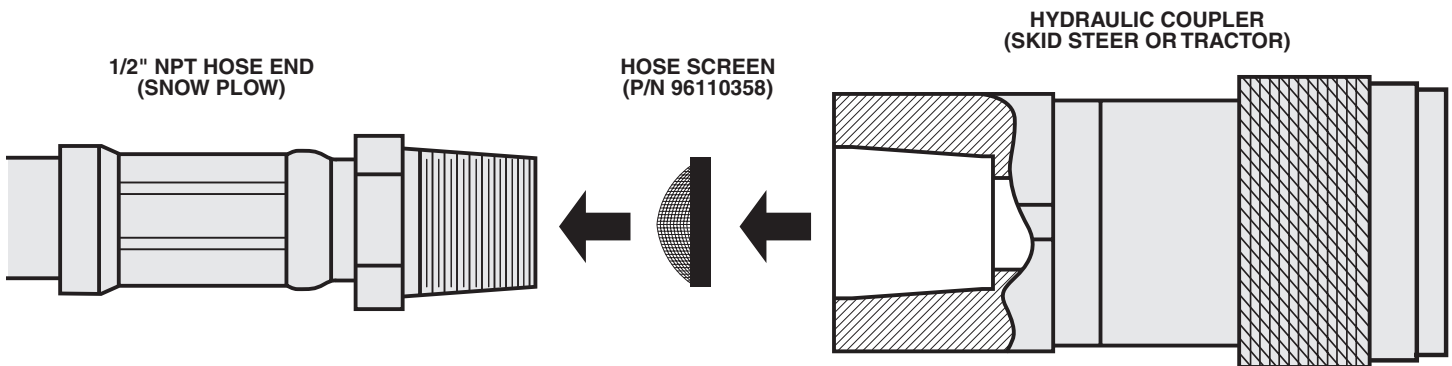

Figure 1-1
2. Position one hose screen in the opening of each 1/2" NPT hydraulic hose. The hose screen should seat flush with the hydraulic hose face. All hose screens should be positioned with the screen inside of the pipe thread. See Figure 1-1.